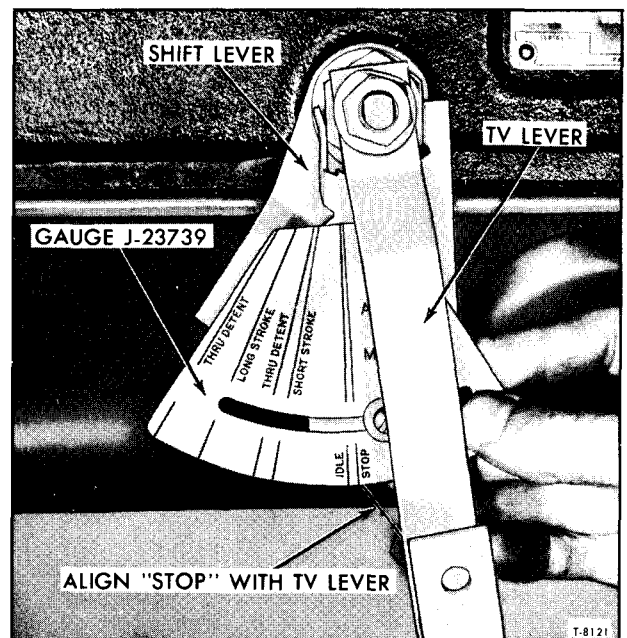
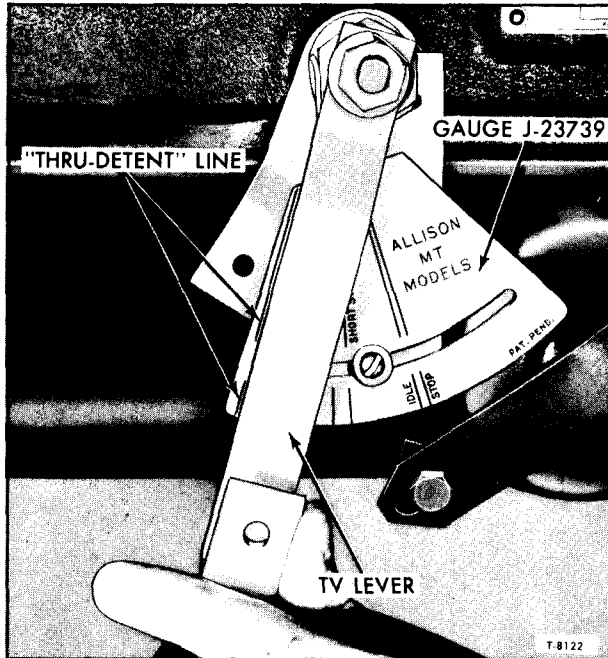

Figure 3—Installing TV Linkage Adjustment Gauge
Figure 4—Checking For Proper TV Lever Travel
d. With accelerator pedal just touching detent button (O) hold the governor throttle lever (A) in full throttle position and adjust position of swivel (J) on rod (I) for free-entry into governor throttle lever (A). Connect swivel (J) to governor throttle lever and release accelerator pedal.
6. Connect throttle return spring (Q).
7. Install gauge (J-23739) as shown in figure 3. Note gauge is installed on manual selector nut.
8. Hold TV lever (N) full counterclockwise against the transmission internal stop. Align the "STOP" line on gauge with forward edge of TV lever. If necessary, reposition gauge on manual selector nut to obtain alignment. Use a mirror if unable to view directly.
9. Move TV lever (N) full clockwise as shown in figure 4. TV lever should be aligned with "THRU-DETENT" line. This step is a check to be sure no internal condition exists in the transmission that would prevent full movement of the TV lever.
NOTE: All MT Series transmissions covered by this supplement are of the Long Stroke design and TV lever travel must be the same as shown in figure 4. Correct any internal transmission condition, if necessary, before proceeding.
8. With accelerator pedal just touching detent button (E) hold the throttle lever (J) in full throttle position and adjust length of rod assembly (A) for free-entry into lever (M). Connect rod (A) to lever (M).
9. Connect throttle return spring (D).
10. Install gauge (J-23739) as shown in figure 3. Note gauge is installed on manual selector nut.
11. Hold TV lever (G) full counterclockwise against the transmission internal stop. Align the "STOP" line on gauge with forward edge of TV lever. If necessary, reposition gauge on manual selector nut to obtain alignment. Use a mirror if unable to view directly.
12. Move TV lever (G) full clockwise as shown in figure 4. TV lever should be aligned with "THRU-DETENT" line. This step is a check to be sure no internal condition exists in the transmission that would prevent full movement of the TV lever.
**NOTE:** All MT Series transmissions covered by this supplement are of the Long Stroke design and TV lever travel must be the same as shown in figure 4. Correct any internal transmission condition, if necessary, before proceeding.
13. Reconnect TV rod (I) to transmission TV lever (G).